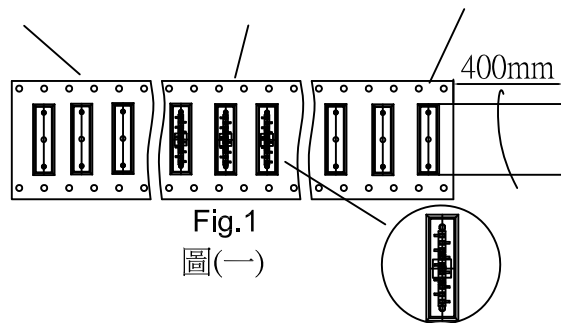

Fig.1
- (1)Packaging way of each reel is shown in Fig.1.